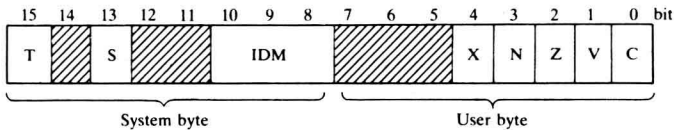

Figure 1.2 68000 status register
Figure 1.2 shows the allocation of flags within the status word. The Carry (C), Zero (Z), Negative (N), and Overflow (V) bits are standard condition flags. There is also an Extend (X) bit flag which is always set to the same state as the Carry flag, if it is affected by any particular instruction. The Extend flag is used for multi-precision arithmetic operations. Chapter 2 describes the relevance of these flags for instructions.